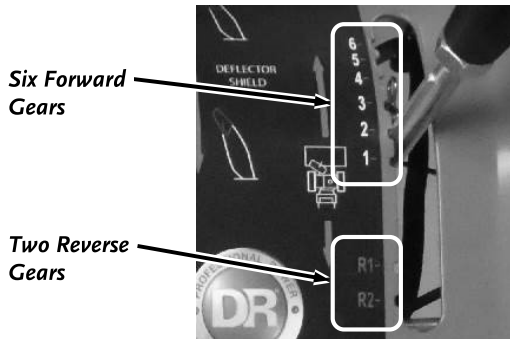

Figure 28
- The SNOW BLOWER has six forward gears (**Figure 28**) that are labeled 1 (slowest) to 6 (fastest).